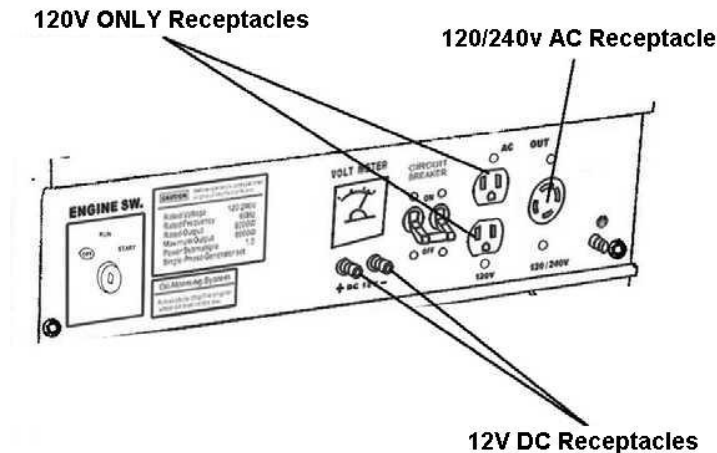

Figure 11- Receptacles available on the generator
- b. Connect 120/240 Volt, single phase, 60Hz loads with NEMA L14-30 plug **only** to the 120/240 Volt receptacle See *Figure 11* for a depiction of each of these receptacles.